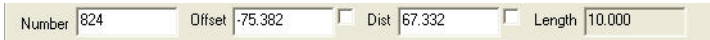

Figure 9-23. Perpendicular – Input Bar
3. Select a second point or enter the number or bearing in the input bar on the lower left of the display area (Figure 9-23).